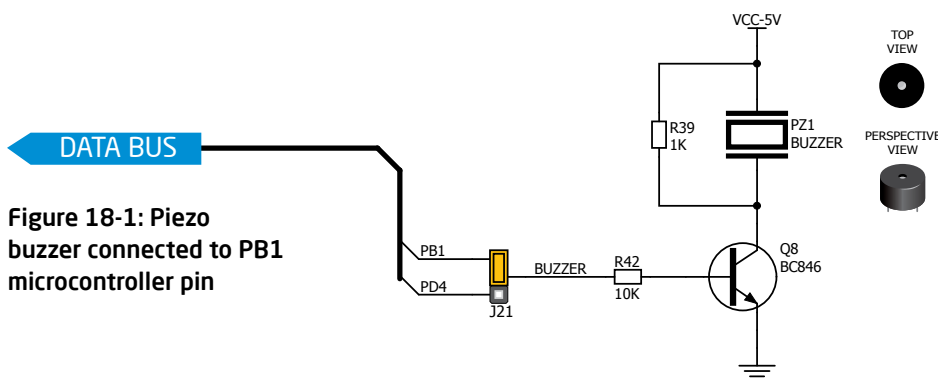

Figure 18-1: Piezo buzzer connected to PB1 microcontroller pin
**Piezo electricity** is the charge which accumulates in certain solid materials in response to mechanical pressure, but also providing the charge to the piezoelectric material causes it to physically deform. One of the most widely used applications of piezo electricity is the production of sound generators, called piezo buzzers. **Piezo buzzer** is an electric component that comes in different shapes and sizes, which can be used to create sound waves when provided with analog electrical signal. EasyAVR™ v7 comes with piezo buzzer which can be connected either to **PB1** or **PD4** microcontroller pins, which is determined by the position of **J21** jumper. Buzzer is driven by transistor **Q8** (Figure 18-1). Microcontrollers can create sound by generating a PWM (Pulse Width Modulated) signal - a **square wave** signal, which is nothing more than